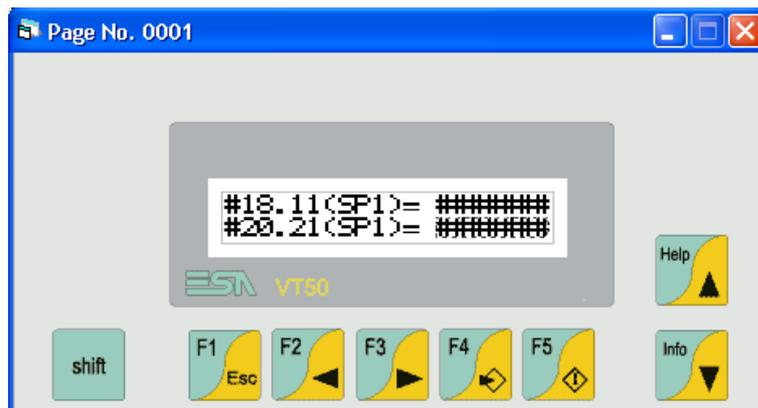

Fig. 24.
3.23 Page No. 0001 will look like the one shown in Fig. 24 eventually